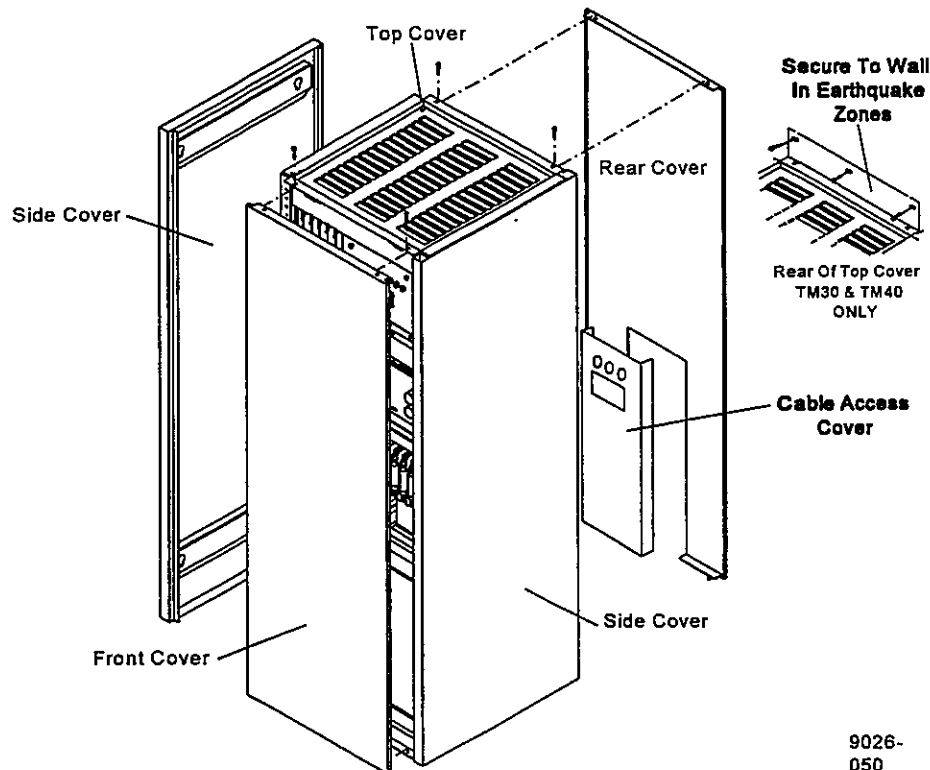

FIGURE 2-7 COVER INSTALLATION
27. Install the covers, see **FIGURE 2-7**.